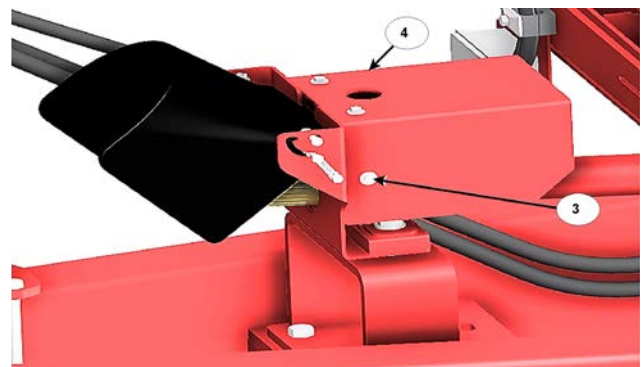
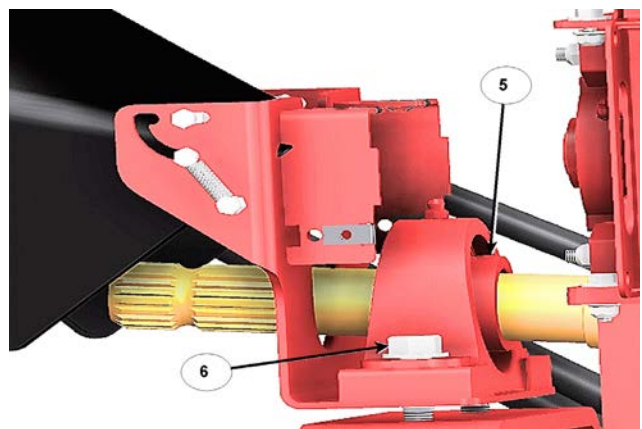

Figure 2: Remove the Rear Driveline Shield
Figure 3: Release the Bearing Lock Collar
3. Remove the fasteners (3) holding the rear driveline shield (4), see *Figure 2*.
- a. Discard the shield (4) and fasteners (3).
4. Release the bearing lock collar (5) on the driveline, see *Figure 3*.
5. Remove the fasteners (6) holding the bearing to the mount plate, see *Figure 3*.